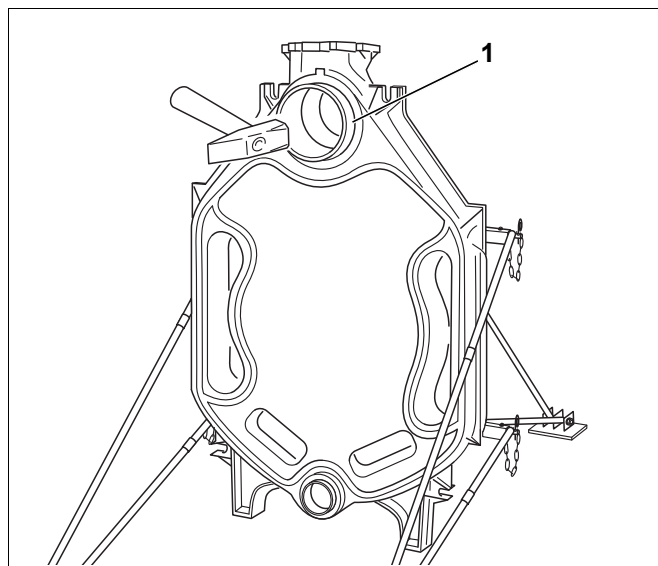

Fig. 14 Drive nipples home.
- Fit the nipples straight into the upper (size 4, 181/70) and lower (size 1, 82/50) hub of the rear section and hammer home securely with alternate heavy blows. Afterwards, the upper nipple (Fig. 14, **[1]**) should protrude approx. 45 mm, and the lower nipple approx. 35 mm from their respective hubs.